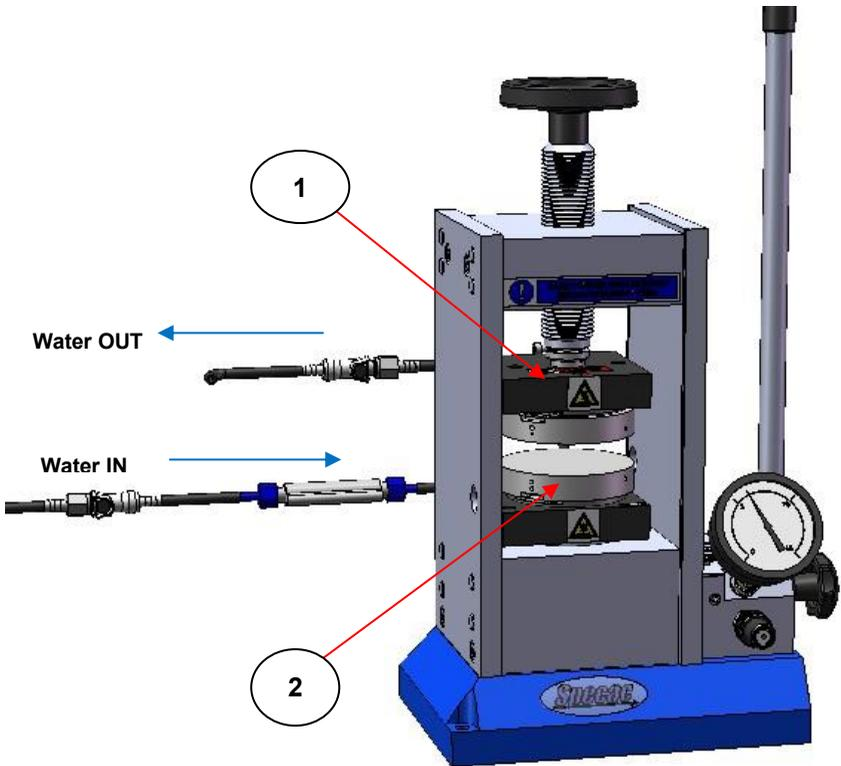

Fig 9. Front View Showing Installation of Atlas™ Heated Platens into the Atlas™ Manual Hydraulic Press
When both the top (1) and lower (2) heated platen assemblies have been installed correctly into the press you are ready to make the electrical connections to the temperature controller. (See Fig 9.)